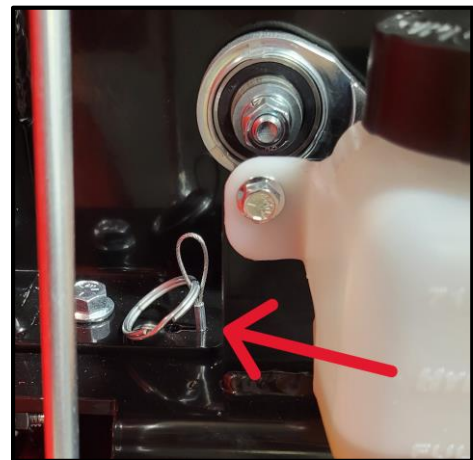

Figure 8 Transaxle Bypass Valve Engaged
- a. Pull the bypass valve ring to the position [Figure 8].